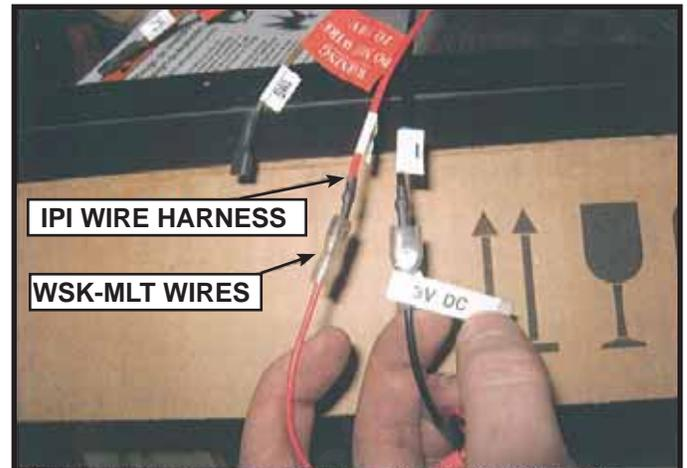

Figure 13.
16. Connect the black/red wires from the IPI wire harness to the black/red WSK-MLT wires. See Figure 13.